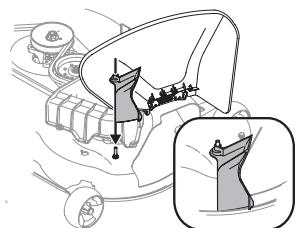

Figure 4
2. **On 50-inch Stamped Decks Only,** position the chute adapter over the pin. See Figure 4.